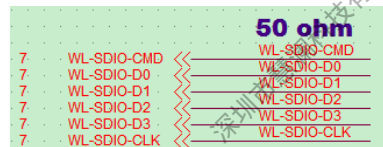

Figure 2-40 The Trace Impedance Requirement of SDIO Signal
- Mark the trace impedance requirement of the WiFi SDIO signal in the schematic diagram to facilitate PCB layout design. As shown in Figure 2-40.